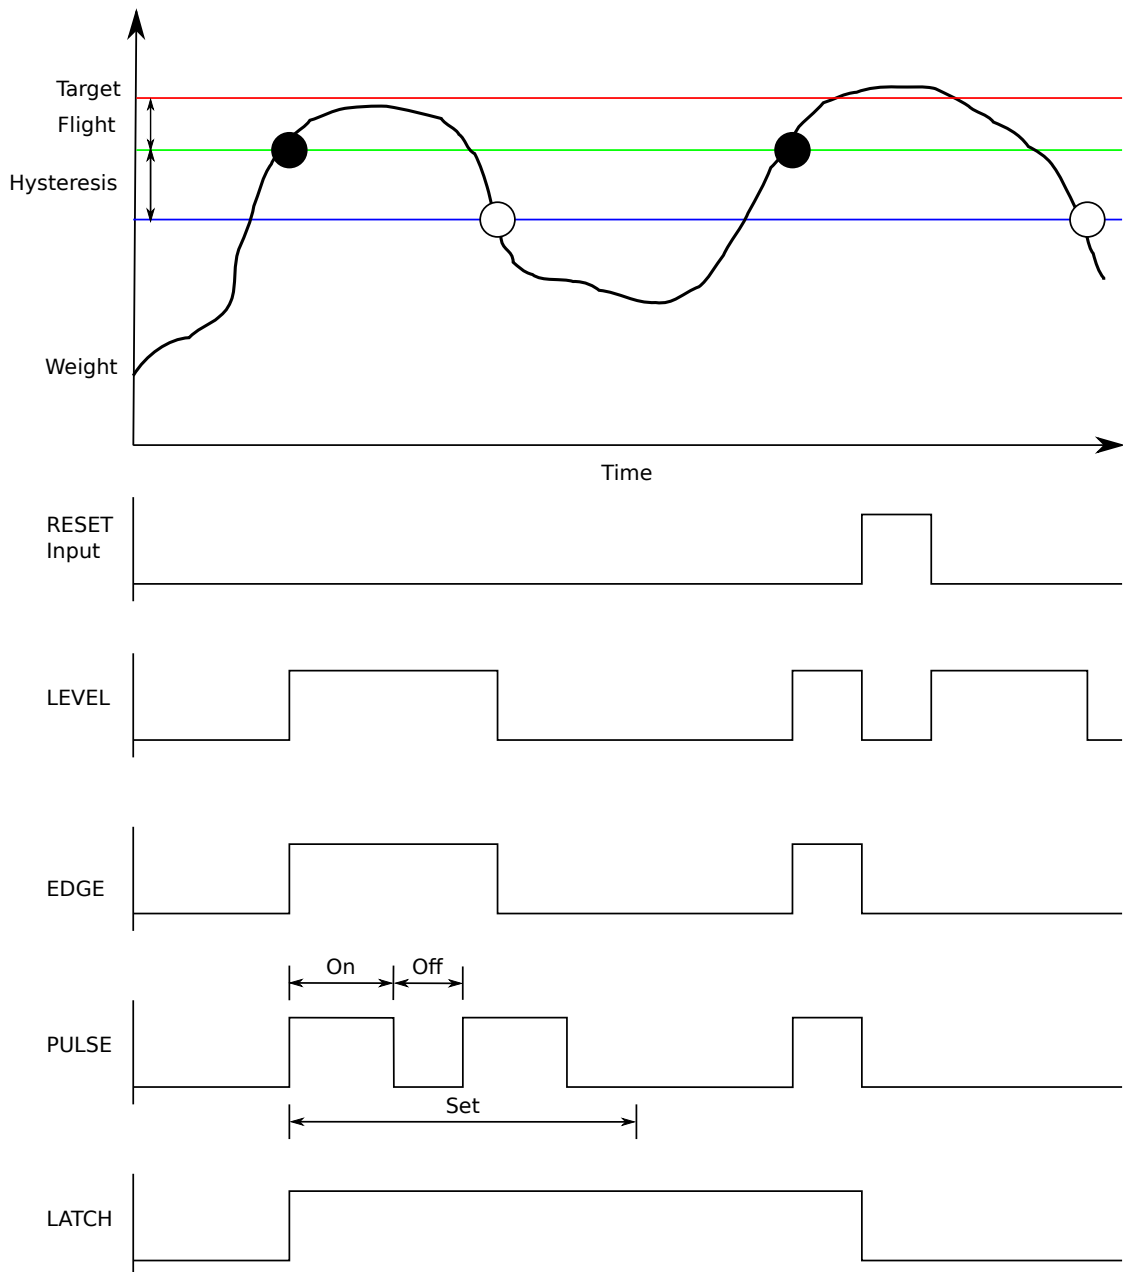

Figure 1: Comparison of output timing on Over setpoint
- **TIMING:** Select the output timing of the setpoint. The following examples are explained in the context of an OVER setpoint however the timing options are available for all setpoint types. See figure 1 on page 67 for further clarification. Options are: